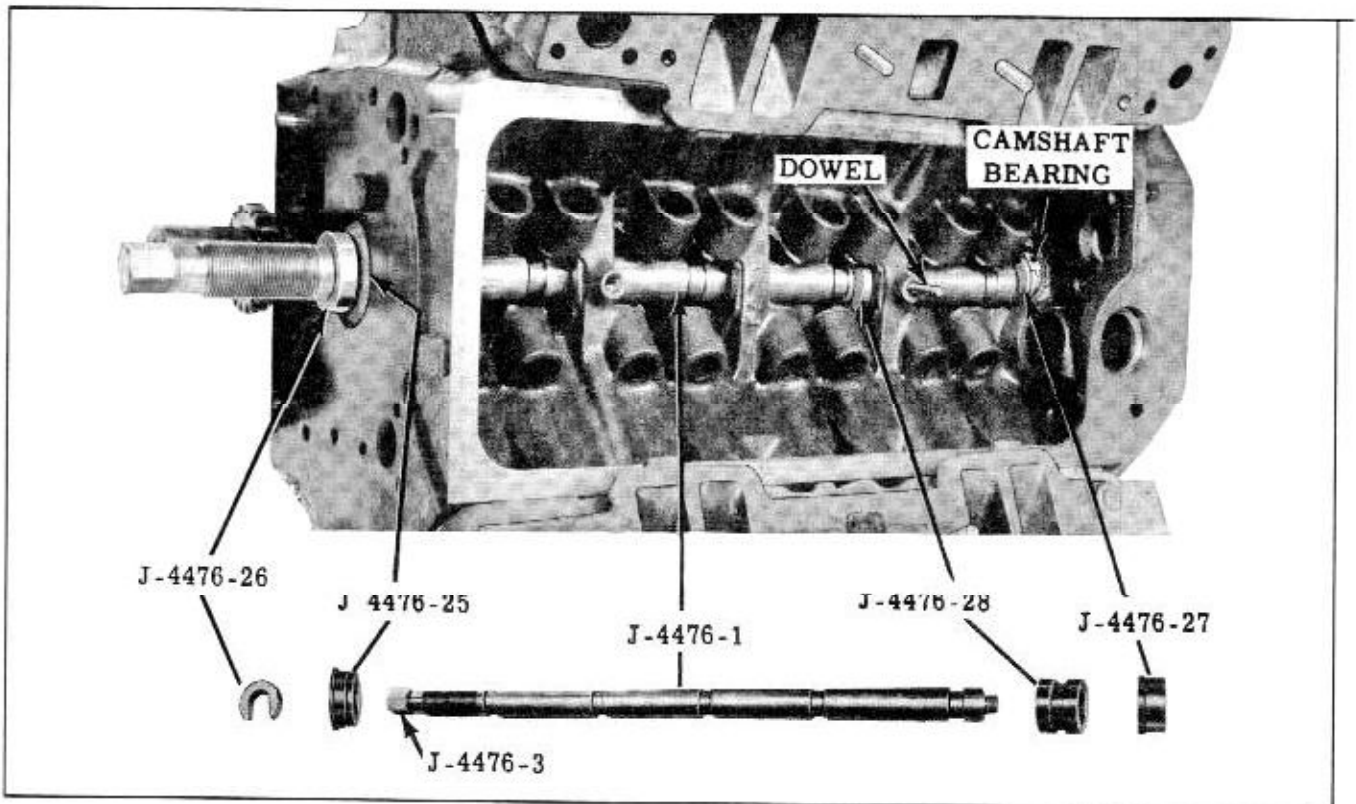

Fig. 8-45 Installing No. 5 Camshaft Bearing
- a. Assemble tools as shown in Fig. 8-45 and insert into engine block so that Installer J-4476-27 is past the No. 4 bearing opening.